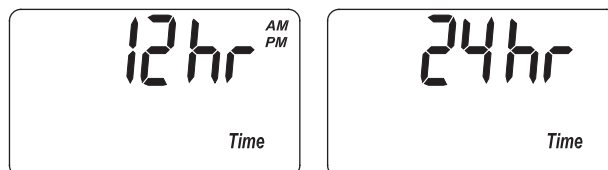

FIG. 32
1. Press and hold the PROGRAM button until the screen in Figure 28 is displayed. Once in this display, press the PROGRAM button five times and one of the two displays in Figure 32 is shown.